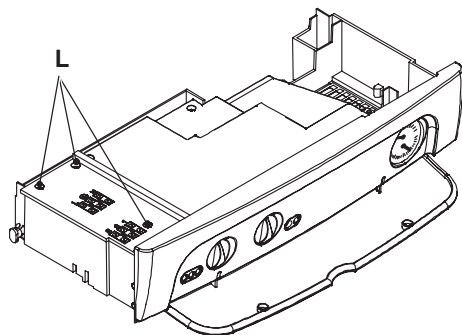

Fig. 6.15
- Loosen the screws L and remove the service panel (Fig. 6.15).